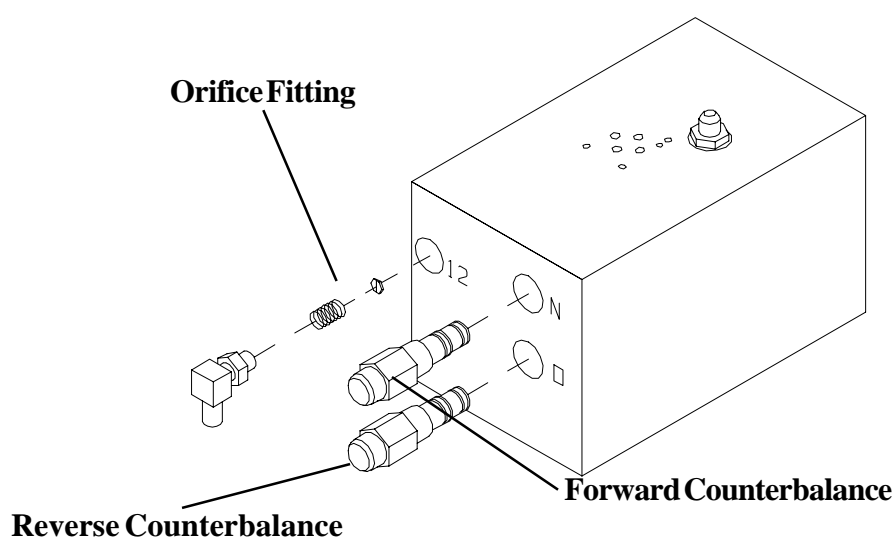

Figure 1
1. Locate the Forward (Reverse) Counter Balance Valve (see Figure 1).